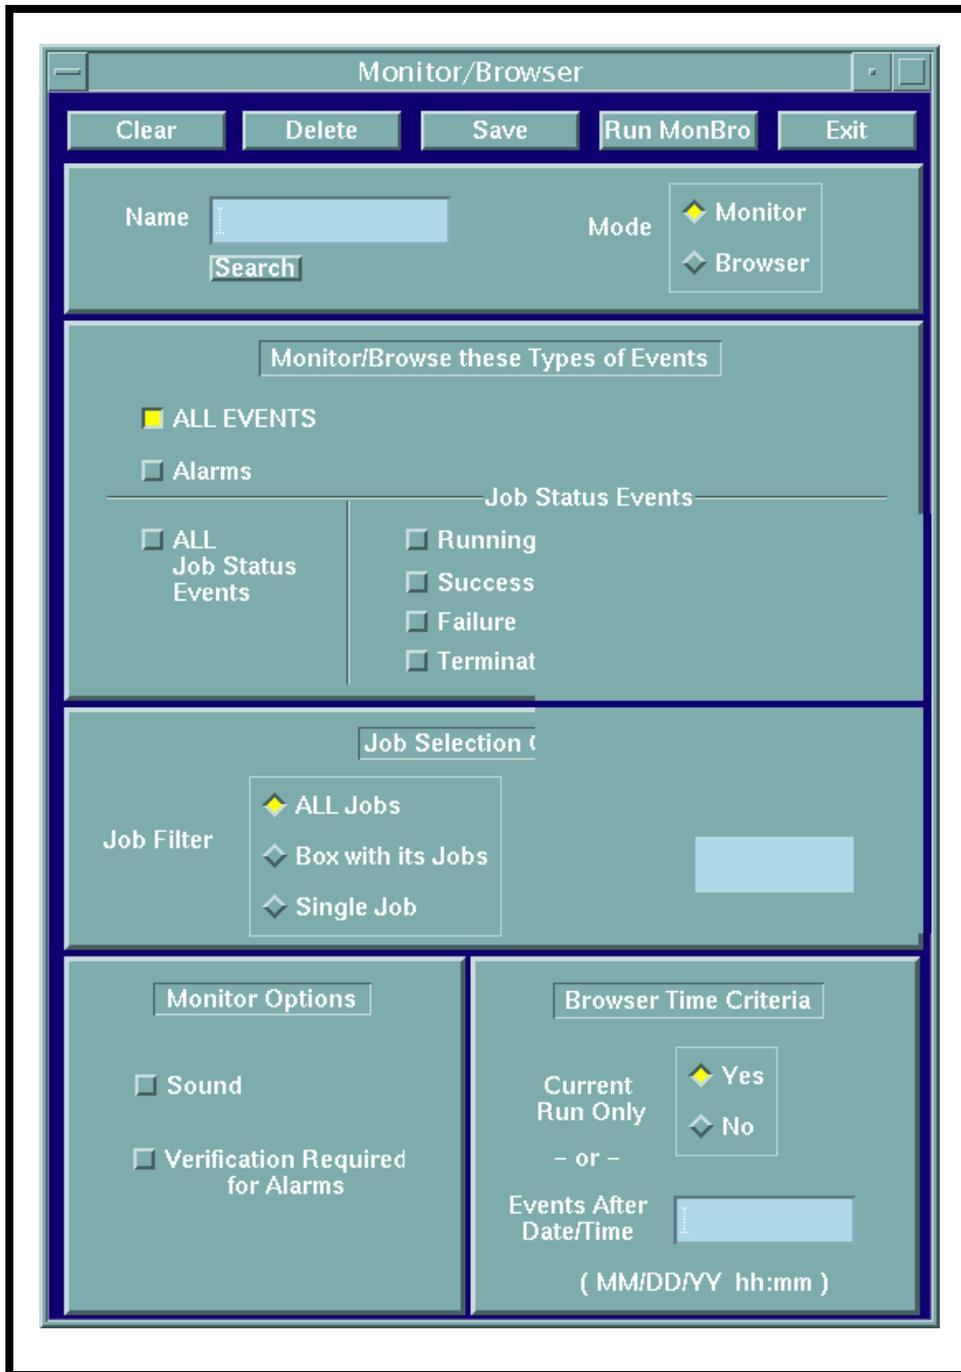

Figure 32. Monitor/Browser GUI
- The **Monitor/Browser** GUI (Figure 32) is displayed.